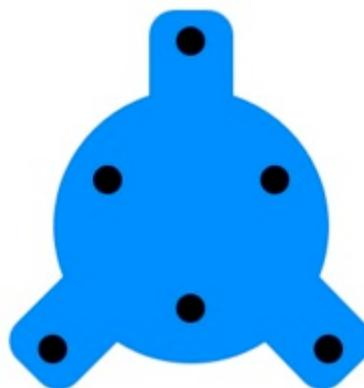

Fig. 1.4.1 Sample spider mount design. Not to scale.
3. If using the mounting holes first mount the M1-D to your mounting fixture then mount the fixture to your surface. We recommend fabricating a “spider” type bracket that extends out beyond the edge of the M1-D (see *Fig. 1.4.1*). If you have access to the underside of your mounting platform you can mark and drill holes to mount your bolts through the mounting plate and up into the bottom of the M1-D.